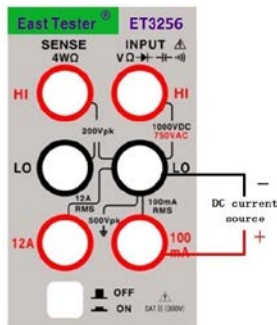

Figure 4-6 Wiring method for low current measurement
2. Choose different test terminals according to the measurement level. See Figure 4-6 for current of